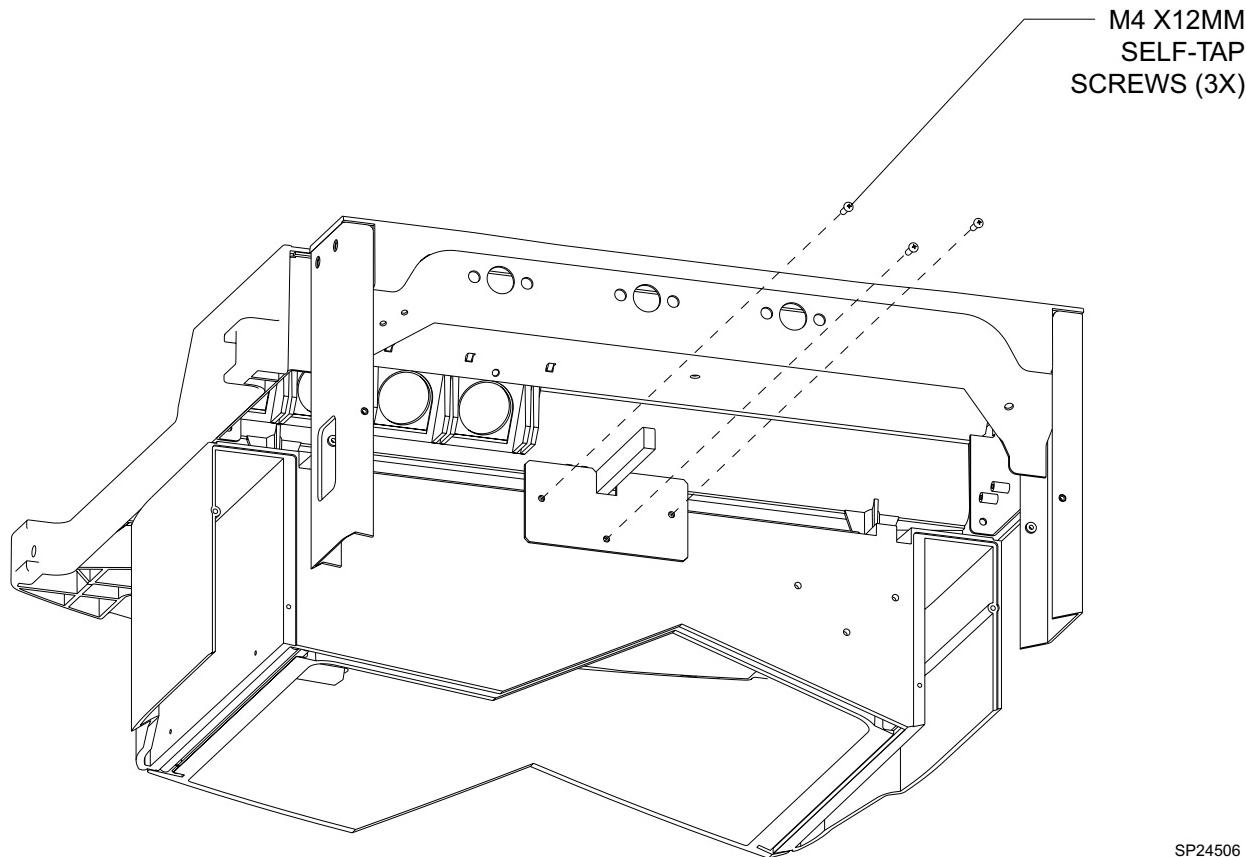

FIGURE 6. Installing the Stop Plate
9. Install the stop plate on the back of the machine with three M4 x 12 mm self-tapping screws (4117027-001). Make sure the bumpers face the front of the machine. See Figure 6.